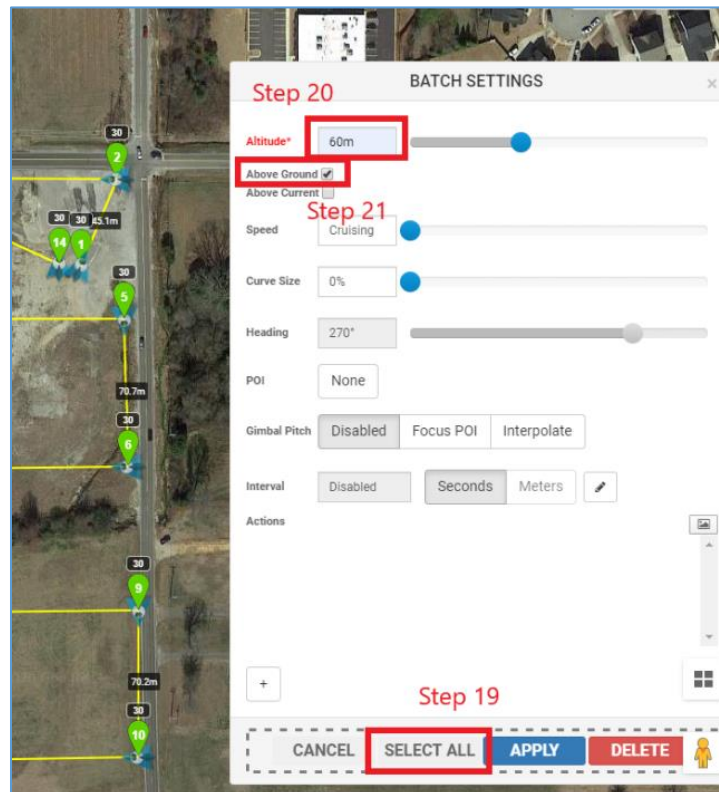

Figure 17 – Adjust Waypoint Elevations
18. Hold CTRL, then select a second waypoint. The waypoint settings dialog becomes the batch settings dialog (Figure 17), allowing the user to change the settings of multiple points.
19. Click *Select All* (Figure 17, step 19) at the bottom of the batch settings dialog to select all points in the mission. All waypoints should be green.
20. Enter the flying height in the altitude box (Figure 17, step 20).
21. Check the box next to “Above Ground” (Figure 17, step 21).